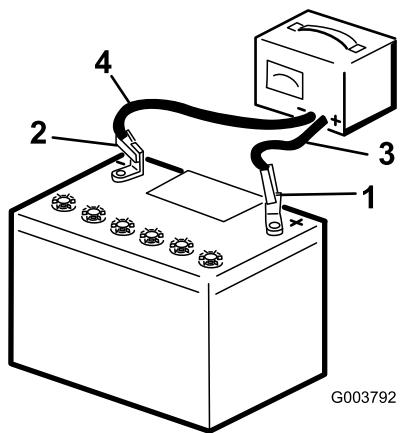

Figure 84
2. Connect the positive lead of the battery charger to the positive-battery post (Figure 84).
3. Connect the negative lead of the battery charger to the negative-battery post (Figure 84).
5. When the battery is fully charged, unplug the charger from the electrical source, then disconnect the charger leads from the battery posts (Figure 84).